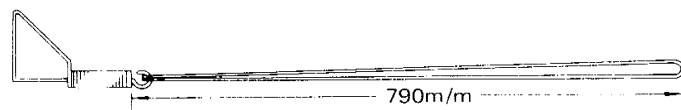

Figure 5-2
- (1) Turn the tuning shaft fully counterclockwise (at the lowest frequency position).
- (2) Align the pointer to the extreme left (Zero point) of the dial scale plate. (See Fig. 5-2.)